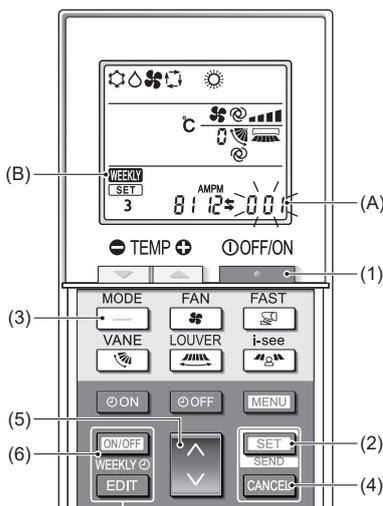

Fig. 5-9
#### 5.9.8. How to disable Auto mode operation (Fig. 5-9)
4. Completing the settings (Fig. 5-9)